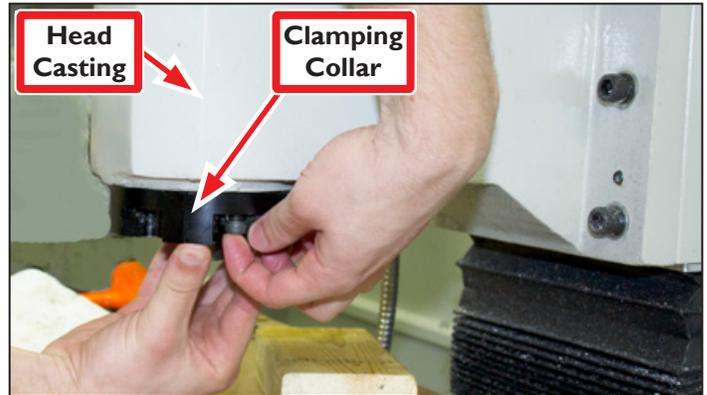

Figure 15
3. Loosely attach Clamping Collar to Head Casting with two M8x25 mm Socket Head Cap Screws (included), one each on opposite sides of collar for support (see **Figure 15**).